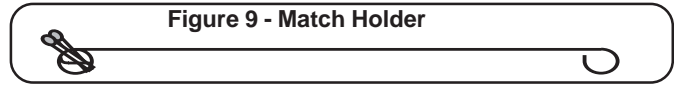

Figure 9 - Match Holder
2. Insert either a burning long-barrel butane lighter, a burning long-stem match or a burning match held by the match holder (attached to the drip tray) (Figure 9) through the